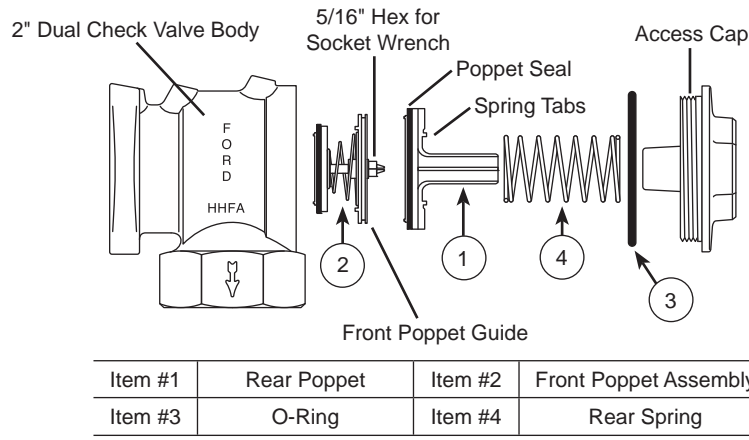

Figure 2
4. Using a 5/16" socket wrench on the Front Poppet Guide hex, remove Front Poppet Assembly (see Figure 2, Item #2) by turning approximately 30 degrees counter-clockwise with wrench. Assembly is spring loaded and will "pop" out once Guide Slots and Tabs are aligned.